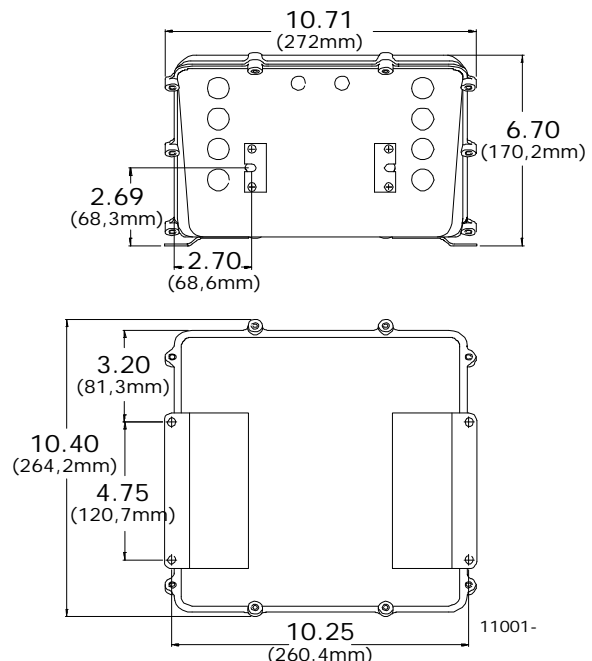

Figure 3 - Processor Dimensions
- Refer to Figure 3 for dimensions.